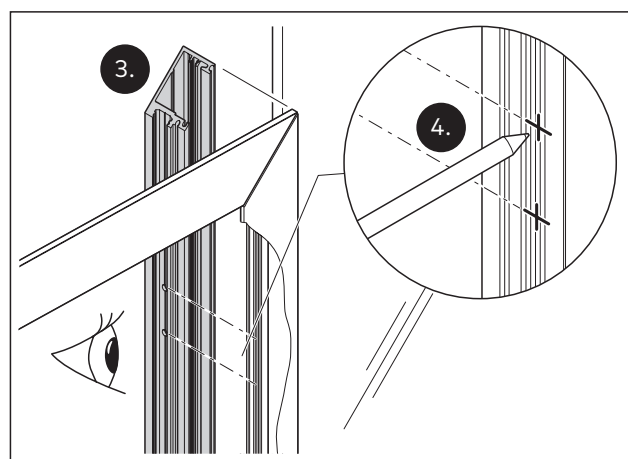

Fig. 32 Determine the position of the fixer from the viewpoint of the opposite side to the hinge
- Keep the cover profiles for the door frame on the hinge side on the base profile for the door frame (Fig. 32).